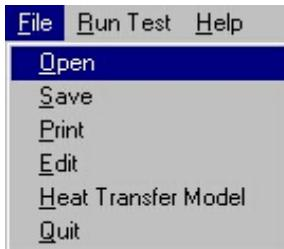
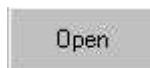

Figure 3.2. File Menu, Open
Figure 3.3. Open Button
1. Click the Open button in the File menu (Figure 3.2), or click the Open button in the Main Window (Figure 3.3).